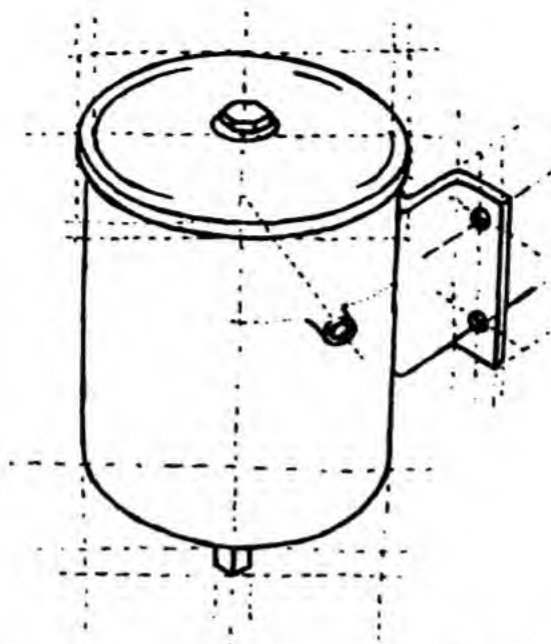
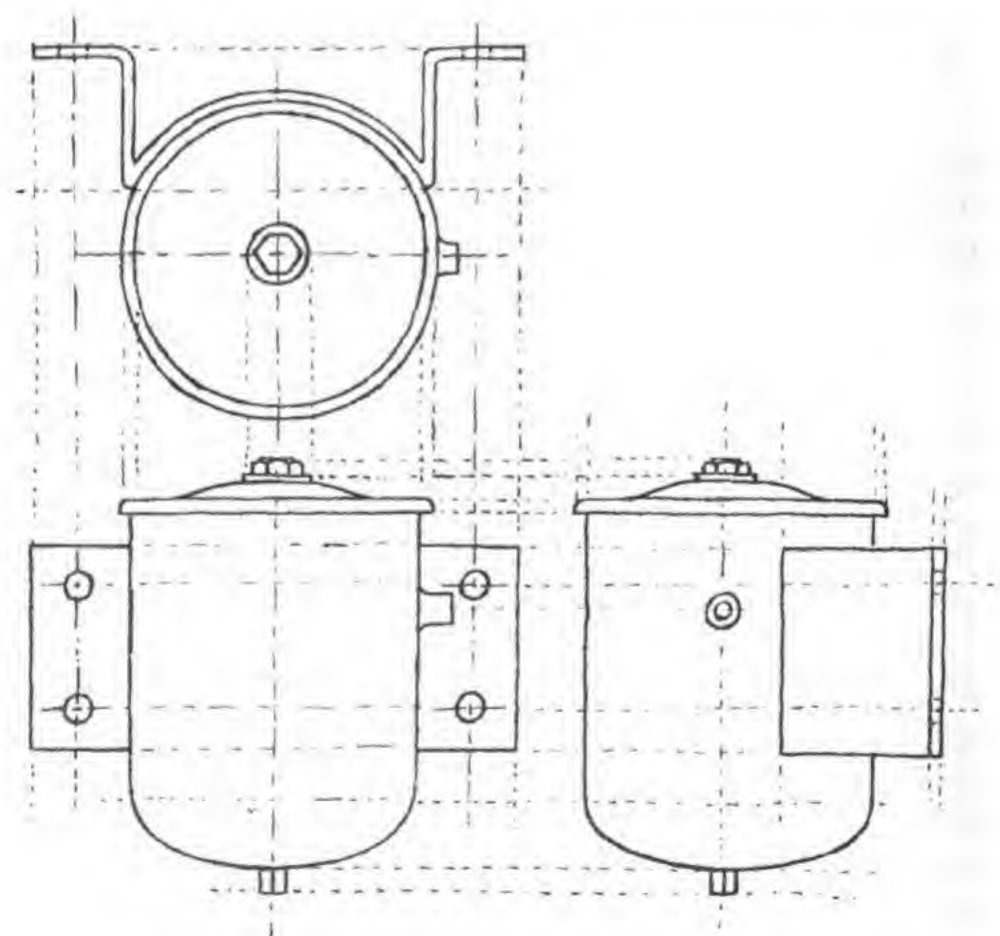
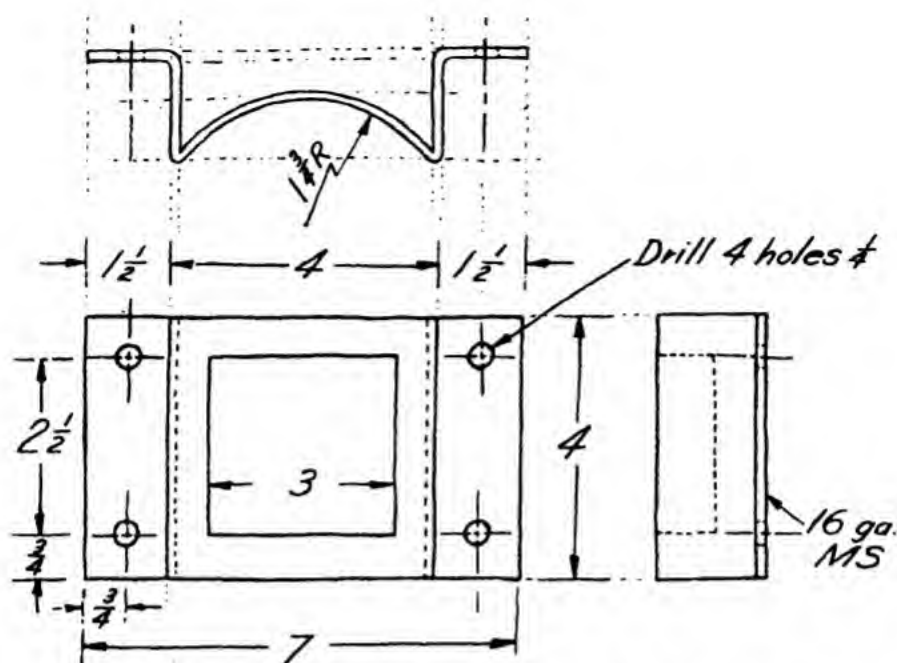
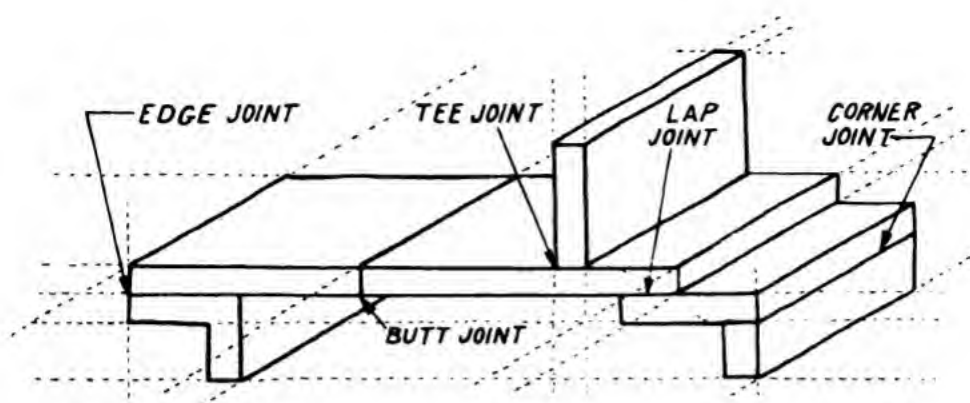

Figure 6-1.—Perspective assembly sketch of an oil filter.
Figure 6-3.—Orthographic assembly sketch of an oil filter.
Figure 6-4.—Orthographic detail sketch of oil filter bracket.
Figure 6-10.—Horizontal, vertical and slanting lines combined.
1. A perspective assembly sketch of an oil filter, like the one on your car, is shown in figure 6-1. It has been made free hand without the use of instruments and looks just like an oil filter. If a man talked about the oil filter "he had in
3. An orthographic assembly sketch of the oil filter. In each of the three views the oil filter appears completely assembled with the cover in place and the bracket secured to the body. See figure 6-3.
4. An orthographic detail sketch of the oil filter bracket is shown in figure 6-4. It is a detail sketch because it shows only one part of the oil filter, or the oil filter assembly, as it
You have noticed that, in figures 6-1, 6-2, and 6-3, no dimensions are given. There is no reason why they couldn't be. If they were, they would be added, in figures 6-1 and 6-2, with dimension lines along the lines of the perspective. In figure 6-3, as in figure 6-4, the dimension lines would be either vertical or horizontal lines.
Using only horizontal lines, vertical lines, and slanting lines, it is possible to make any number of complete and acceptable technical sketches, depending, of course, on the item or job to be sketched. Figure 6-10 is a perspective assembly sketch of a demonstration exercise for five kinds of welded joints showing the several pieces set up before being welded. Like the perspective assembly sketch of the oil filter shown in figure 6-1, this sketch looks like the actual item as it would appear on the welding bench. Only horizontal, vertical, and slanting lines were used to make it.